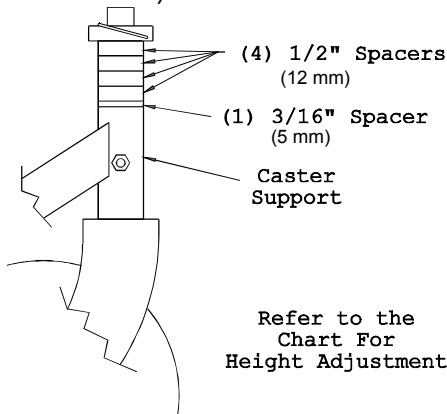
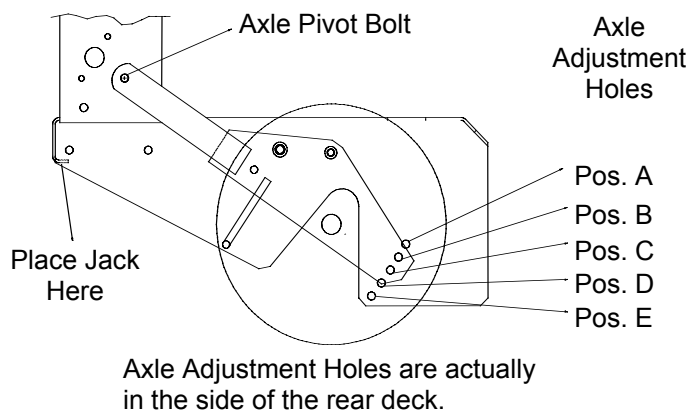

FIGURE 19
FIGURE 20
Desired cutting height range can be obtained by adjusting the rear axle and placing caster spacers above or below the caster arm (See Figures 19 and 20 along with the Cutting Height Adjustment Chart). **It may be necessary to readjust wheel drive and brake linkages.**
- d) Loosen but do not remove the two (2) axle pivot bolts and the two (2) axle adjustment bolts (See Figure 20).
- f) Raise the back end of the engine deck up enough to remove the two (2) axle adjustment bolts.
- g) With the jack, raise or lower the back end of the engine deck so that two (2) axle adjustment bolts can be reinstalled in desired hole location. A tapered punch can be used to help align the holes.
- h) Retighten all four (4) bolts, lower unit and remove jack.
- k) Adjust the caster spacers as directed in chart to match with the axle hole selected. (See Figure 19).